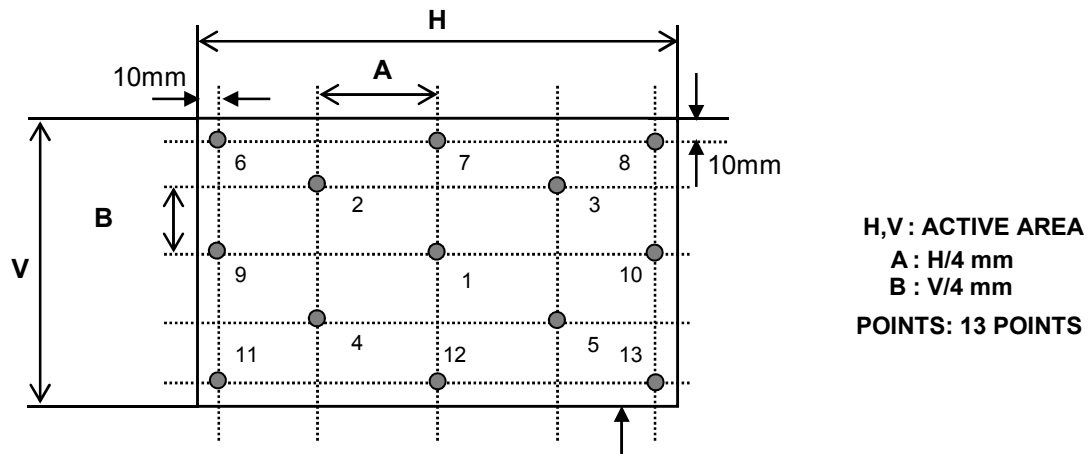

FIG. 3 Response Time
- Response time is the time required for the display to transition from white to black (rise time,  $Tr_R$ ) and from black to white(Decay Time,  $Tr_D$ ). For additional information see FIG 3.